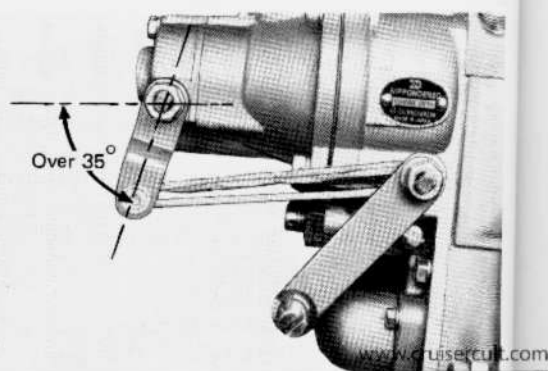

Fig. 3-124 Adjusting Main Spring
2. Place cam lever at more than -35° from the level (Fig. 3-124).